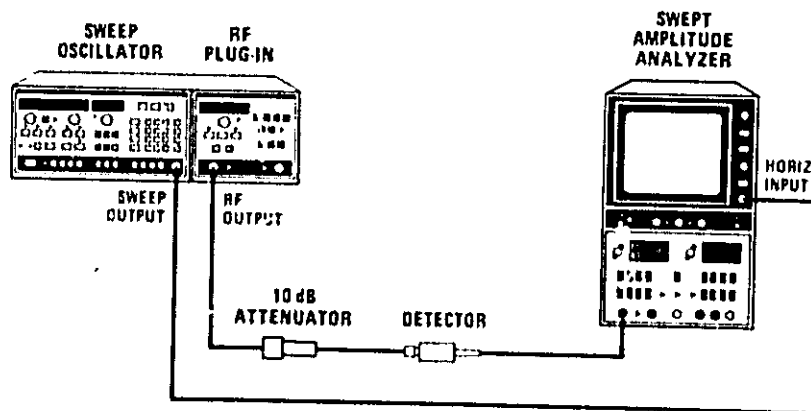

Figure 5-27. Power Sweep Test Setup
1. Connect equipment as shown in Figure 5-27. Select 8350A \square MOD .